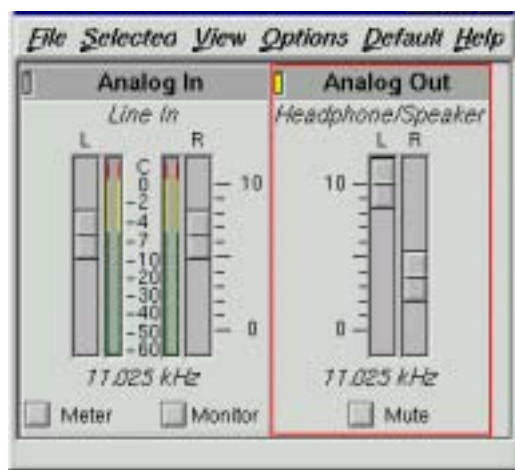

Figure 7-3 Audio Panel
- 4.) Leave all audio panel sliders at their default positions, as shown in Figure 7-3.